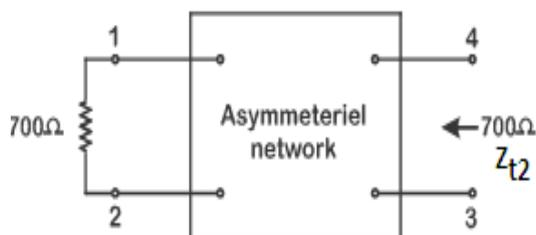

Fig.1.8 (b) Calculation of Z_{t2}
- ❖ For example, the impedance looking into terminals 1, 2 of Fig.1.8 (a) is 300Ω , when terminals 3 and 4 are terminated in 300Ω